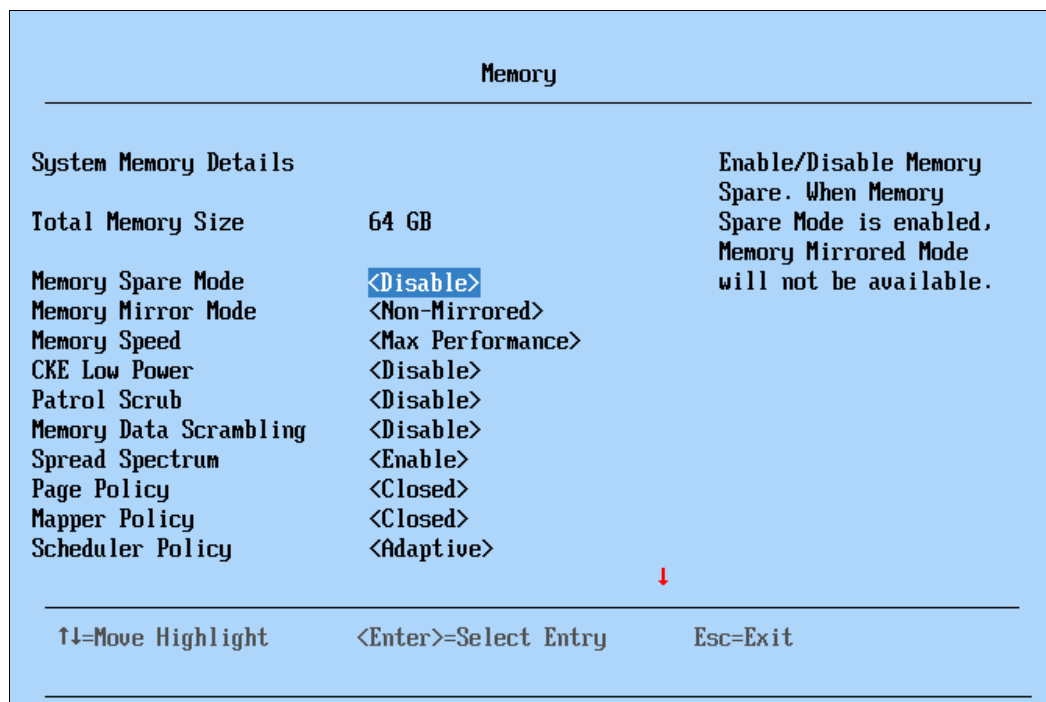

Figure 7-8 Memory configuration panel in F1-Setup
2. From the System Configuration panel, select **System Settings** → **Memory** (Figure 7-8).
Figure 7-8 shows the Memory configuration panel with selections for performing memory sparing or memory mirroring, but not both at the same time. Select the desired option and reboot the server. If your memory population order does not support the requested option, the server will report a memory configuration error during the next reboot.